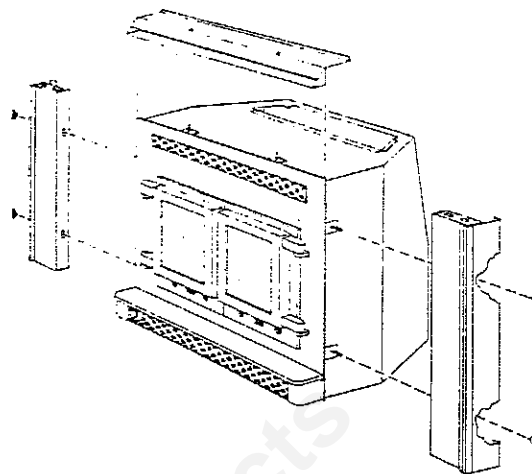

Fig. 6 Side Trim Assembly
2. Attach the right and left side trim pieces. There are two wing nuts used on each piece. The side trim should be raised until it is flush with the top of the Fireplace Heater before tightening the wing nuts (Fig. 6).